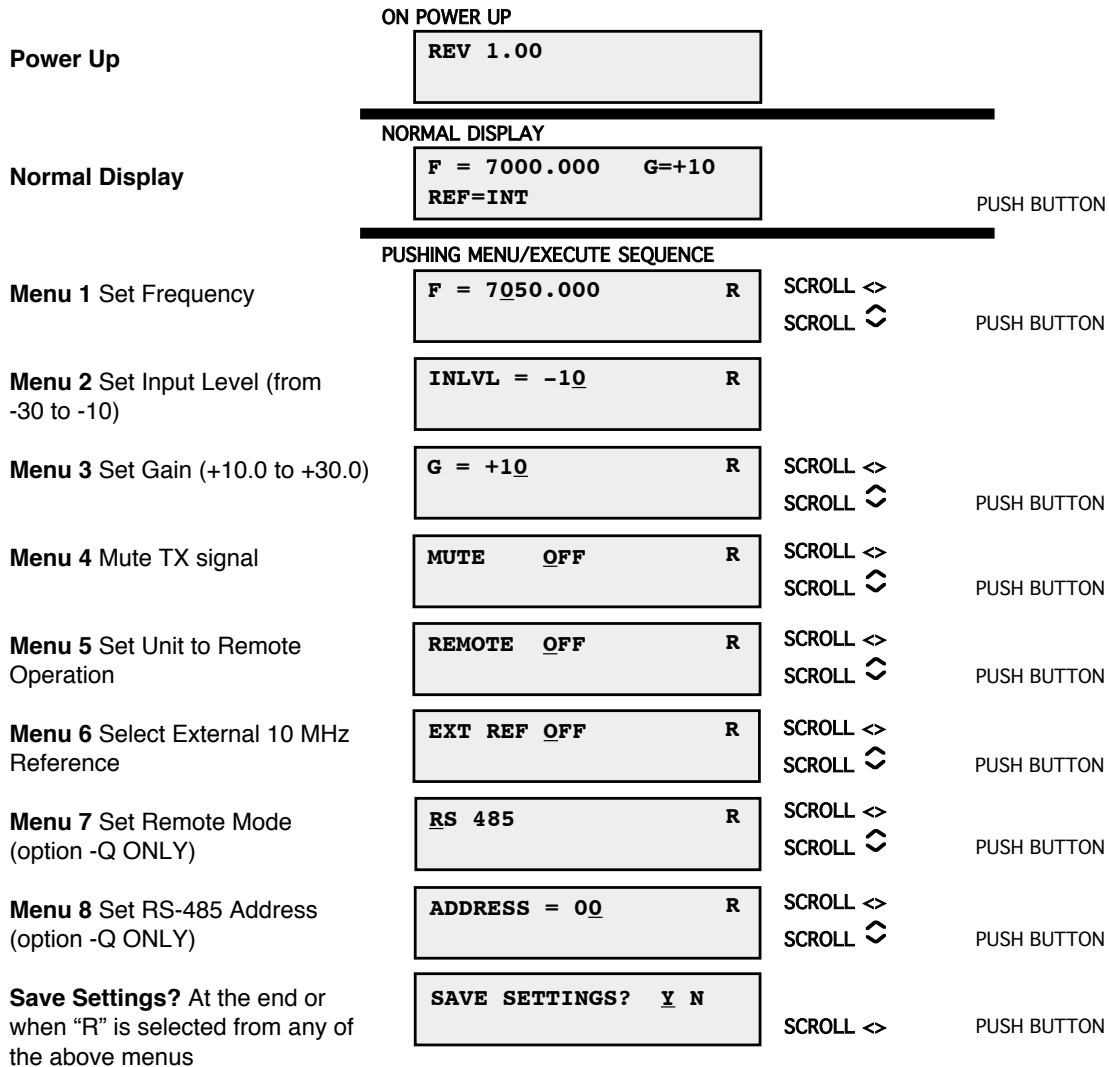

FIGURE 2.5 Menu Display and Sequence
2.5.1 Functions - This section describes operation of the front panel controls. There are three operator switches, the LCD display and alarm indicator LEDs. All functions for the equipment are controlled by these components. The functions are (see Figure 2.5):
Operate the Menu/Execute switch until you get to the menu item you want to change see Figure 2.5 for the sequence of menu options. The following display is for changing the upconverter frequency:
Figure 2.5 shows all the menu items and how to make changes.
Operate the Menu/Execute switch until you get to the menu item you want to change (see Figure 2.5 for the sequence of menu options). The following display is for changing the upconverter input level. This is an important setting to optimize spurious and should be made as accurately as possible:
Figure 2.5 gives the menu items and how to make changes